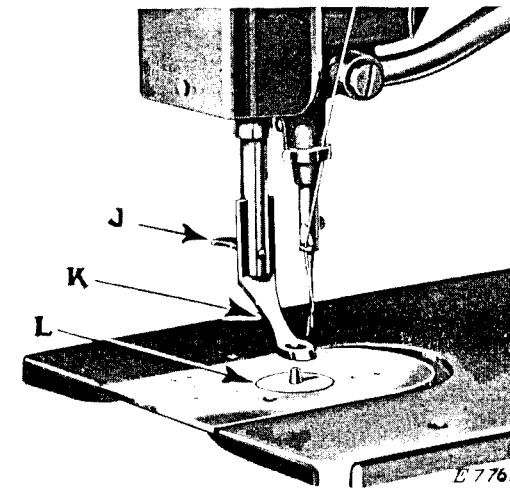

Fig. 13. Machine Adjusted for Madeira Embroidery
Select the size spur plate (L, Fig. 13) and corresponding presser foot (K, Fig. 13) according to the size of eyelet required, as shown in the following table:
Remove the wing screw (J, Fig. 13) at the lower end of the presser bar and remove the presser foot. To replace the presser foot, insert the shank of the foot in the slot in the presser bar, replace the wing screw (J) and securely tighten it.